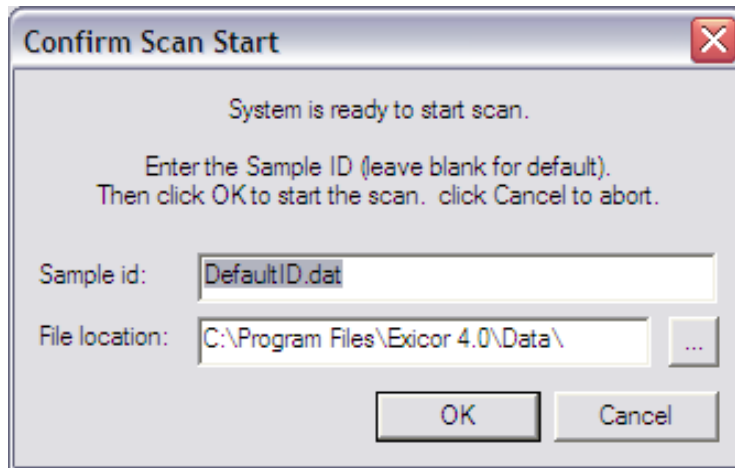

Figure 4.4 Confirm Scan Start Dialog Box
6. Click on the **Start Scan** button. The dialog box shown in Figure 4.4 appears, prompting you for a sample ID. Enter a new sample ID or leave the field blank to accept the default sample ID, "DefaultID".